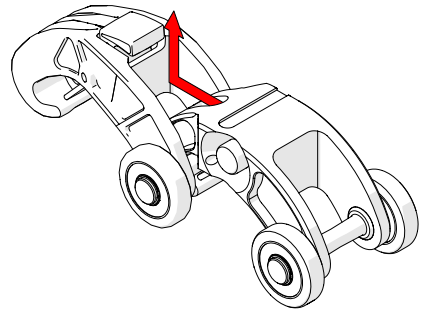

Fig. 51 - Slide Dovetail QuickLink forward and lift
2. While pressing the red button, slide the Dovetail QuickLink forward and up, clearing the hook of the Dovetail QuickLink from the 2nd QuickLink's axle (*Fig. 51*).